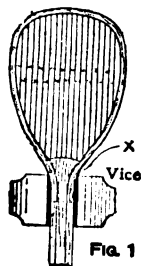
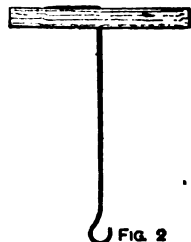

Fig. 1 Restringing Tennis Racket.
Fig. 2
**Restringing Tennis Racket.**—A small bench vice with 3-in. or 4-in. jaws will be strong enough for use in stringing rackets. Put a piece of soft thick leather on each side of the tennis bat. The jaws of the vice must hold the bat right up to the shoulders (see Fig. 1), or when pulling on the string the bat will break at the part marked X. When the main strings are tightly threaded down in the vice, tighten from the middle string of the racket, using for the purpose a steel button-hook fixed in a wooden handle (see Fig. 2). Suppose, for example, the bat has eighteen strings (that is, nine on each side), pull first with the button-hook on No. 9, and hold the string with the left hand while No. 8 is pulled, then hold No. 8 while No. 7 is pulled, and so on down to No. 1. The bare end of No. 1 has already been passed beneath the loops of Nos. 5 to 1, and the slack must now be pulled